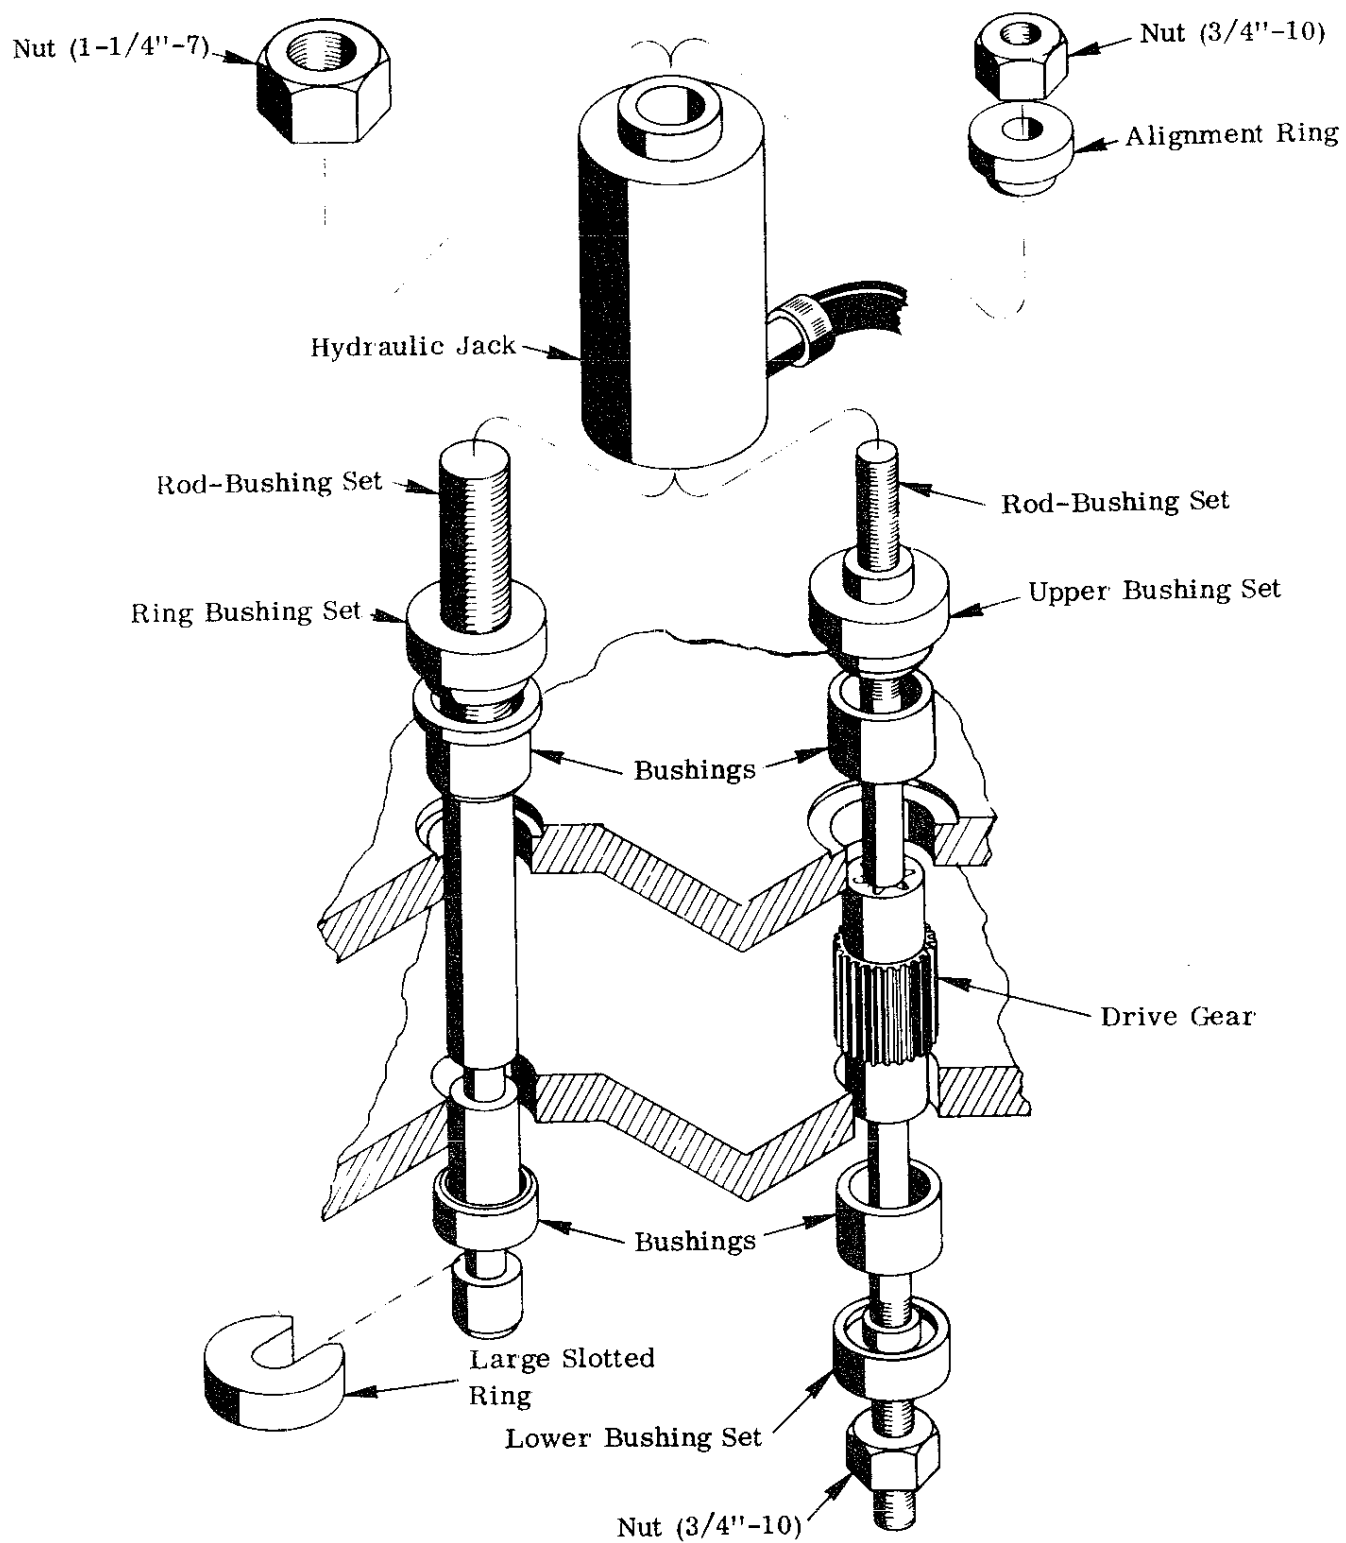

Figure G-8. Bearing Installation
- 3 To install the bushings, assemble the unit as shown (Figure G 8) and apply power to press the bushings into position.